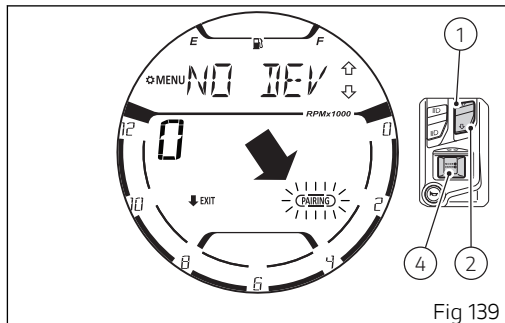

Fig 139
Upon entering the function, use buttons (1) and (2) to select the "PAIRING" item with flashing frame and press button (4) (Fig 139).